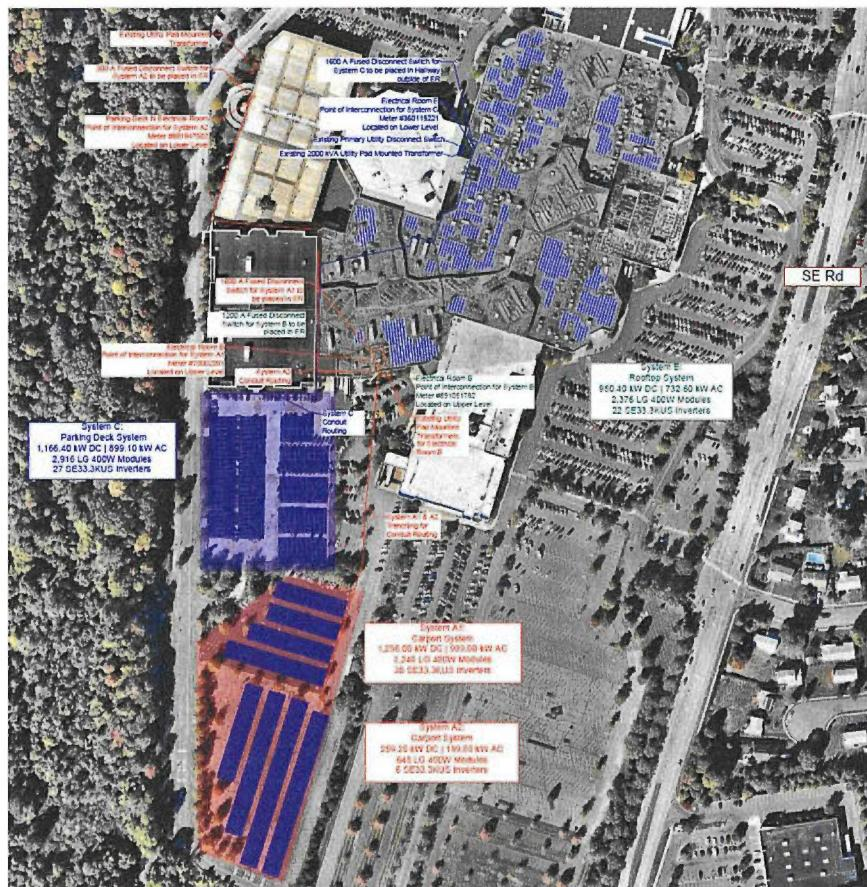

Figure 1: Bird's-Eye View
Westfarms Associates is proposing the installation of three (3) separate roof or ground mounted PV systems, for a total of 2630.7 kW, at their facility in Farmington. This project is located on the Farmington 1C 23 kV circuit. The system is located approximately 4.0 miles from the substation. A picture illustrating the 1C03 circuit route from the Westfarms Mall to Farmington substation is found in Appendix A. The proposed system layout of PV panels / solar modules is found below in figure 1.